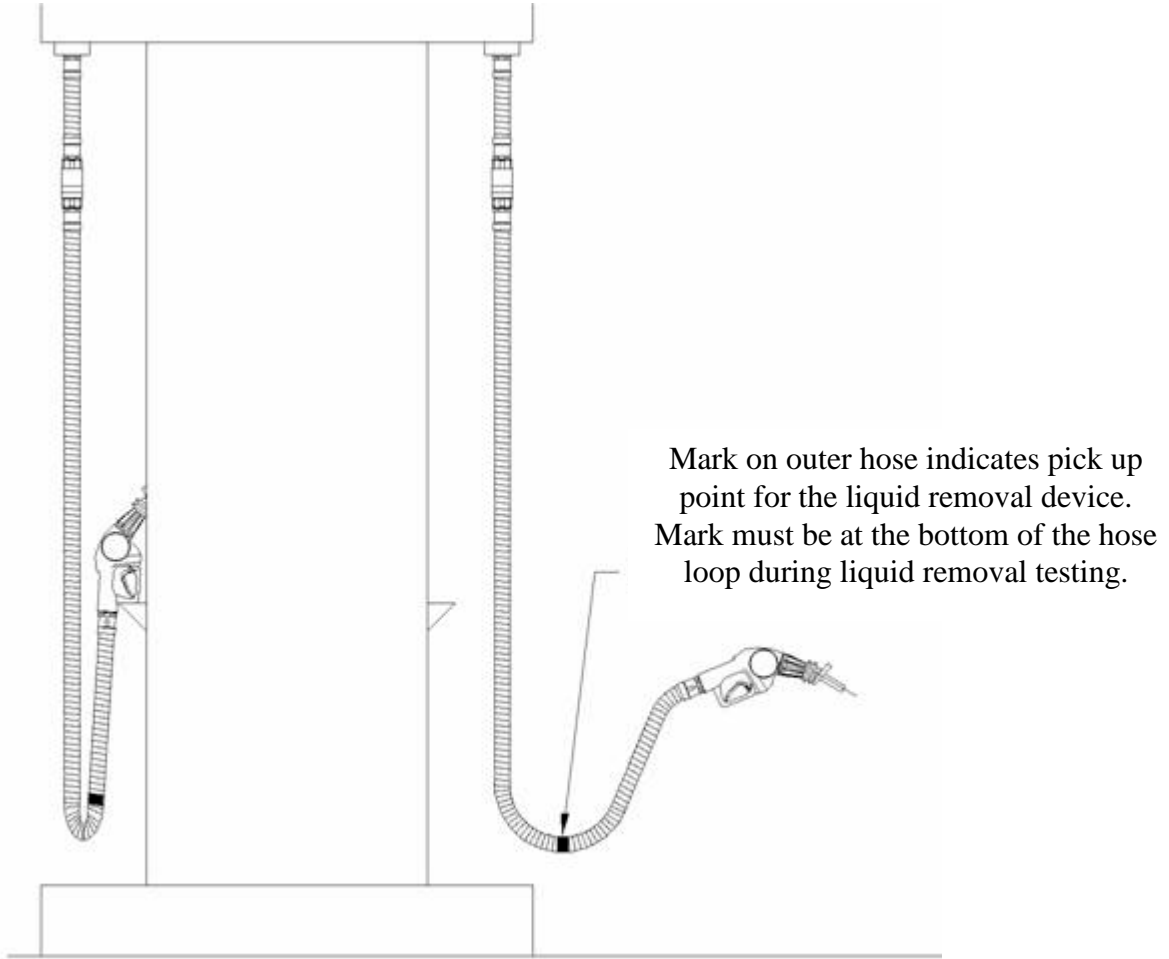

Figure 2
- 5.1. Nozzle Spout Plug: If testing a fueling point with a VST Model VST-EVR-NB nozzle, use VST's spout plug, P/N VST-STP-100 (Figure 2). If testing a fueling point with a EMCO Model A4005EVR nozzle, use EMCO's nozzle spout plug, P/N 494635EVR as shown in Figure 3.
- 6.2 Remove the nozzle from the dispenser. **Do not activate dispenser!** If testing a fueling point with a VST Model VST-EVR-NB nozzle, install VST's spout plug, P/N VST-STP-100 in the tip of the spout (Figure 2). If testing a fueling point with an EMCO Model A4005EVR nozzle, install EMCO's nozzle spout plug, P/N 494635EVR in the tip of the spout (Figure 3). Carefully tilt the spout into the funnel/graduated cylinder assembly.
- 7.2 Remove the nozzle from the dispenser. **Do not activate dispenser!** If testing a fueling point with a VST Model VST-EVR-NB nozzle, Install VST's spout plug, P/N VST-STP-100 in the tip of the spout as shown in Figure 2. If testing a fueling point with an EMCO Model A4005EVR nozzle, install EMCO's nozzle spout plug, P/N 494635EVR in the tip of the spout (Figure 3). Position the nozzle upright so that the spout is in a vertical position.